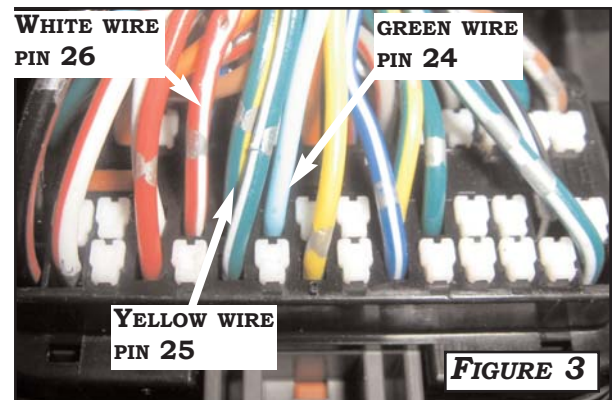

FIGURE 3
3. LOCATE **RED/WHITE** WIRE IN **PIN 24** AND **LIGHT GREEN** WIRE IN **PIN 26** AT THE CONNECTOR. **FIGURE 3**
1. LOCATE THE (3) WIRE ECM HARNESS IN KIT. LOCATE **LIGHT GREEN** WIRE IN **PIN 24** AND **RED/WHITE** WIRE IN **PIN 26**. CUT OFF TERMINAL FROM **GREEN** WIRE OF ECM HARNESS AND SOLDER TO **LIGHT GREEN** WIRE IN **PIN 24** OF EO1. CUT OFF TERMINAL FROM THE **WHITE** WIRE OF ECM HARNESS AND SOLDER TO **RED/WHITE** WIRE IN **PIN 26** OF EO1. **NOTE: YELLOW WIRE IN SUPPLIED ECM HARNESS IS NOT REQUIRED FOR PREWIRED APPLICATIONS. FIGURE 3.** CONTINUE TO PART C.